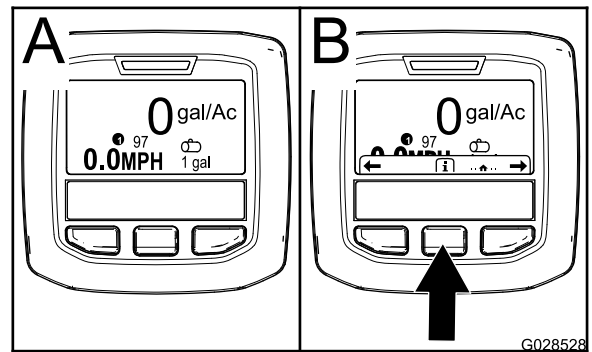

Figure 26
2. After approximately 15 seconds, the home screen will appear, press the center selection button to display the information context (Figure 26).